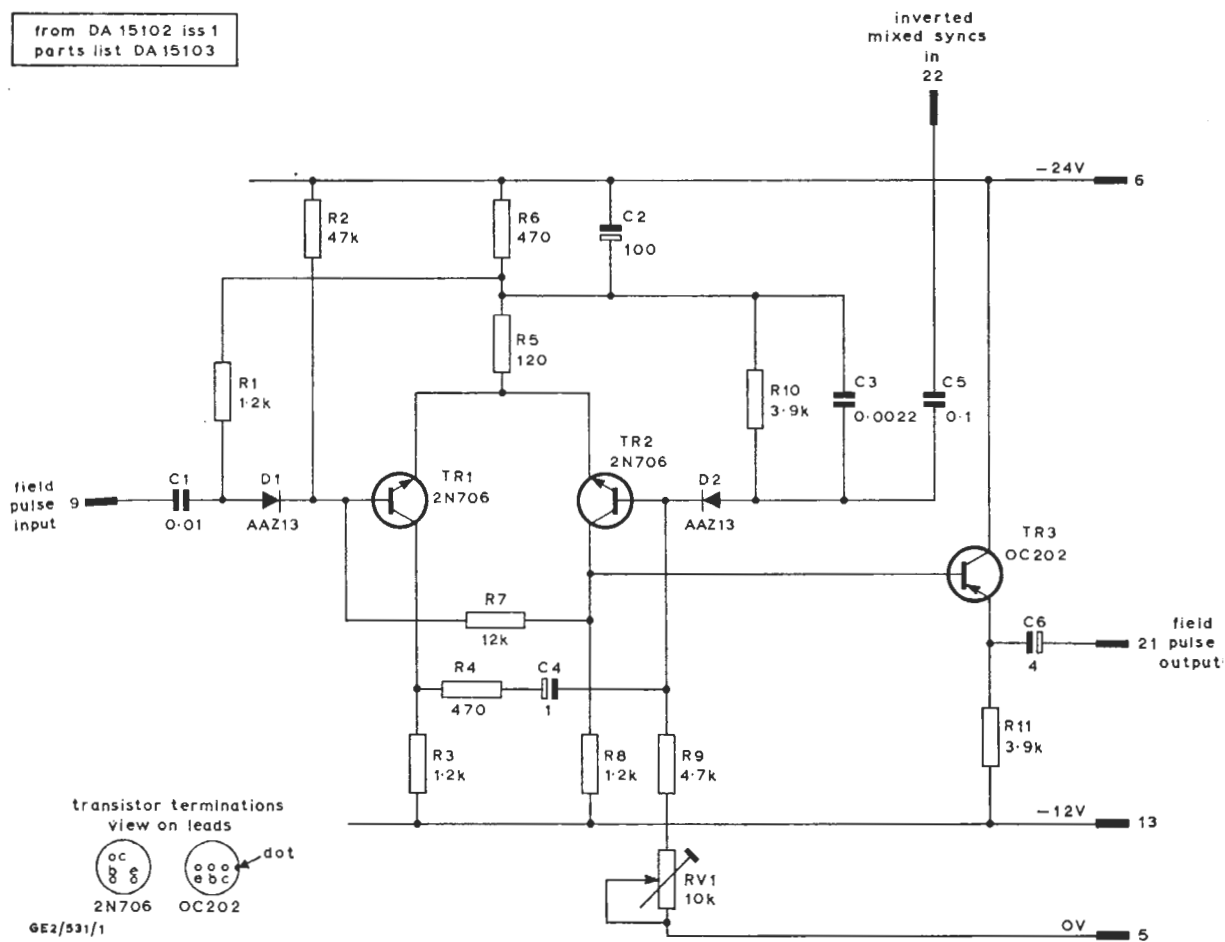

Fig. 1 Circuit of the Post-field Pulse Generator GE2/531
The circuit diagram is given in Fig. 1. The field-frequency input signal is applied, via a differentiating circuit and a diode clipper which removes the negative-going portion of the waveform, to TR1. Transistors TR1 and TR2 form a monostable multivibrator and, when TR1 is
*See overleaf for Fig. 1*